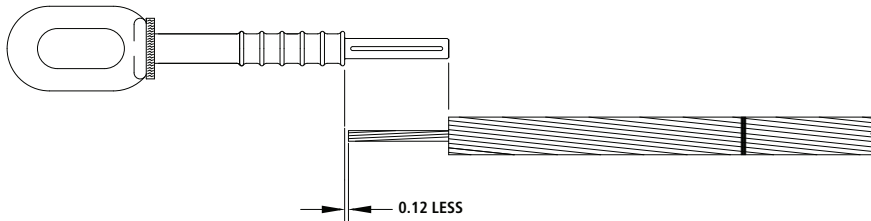

Fig. 2
2. Cut back the aluminum strands on end of conductor, a distance equal to the length of the "Steel Forging" barrel, less 0.12 inches. Use cable trimming tool. Use tape or tie wire to temporarily retain the conductor's strands in a tight configuration during strand removal. See Fig. 2.